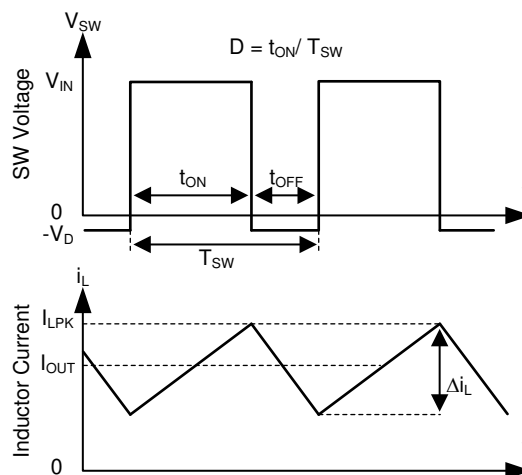

Figure 10-2. SW Node and Inductor Current Waveforms in Continuous Conduction Mode (CCM)
The following operating description of the TPS2586x-Q1 refers to the *Functional Block Diagram*. The TPS2586x-Q1 integrates a monolithic, synchronous, rectified, step-down, switch-mode converter with internal power MOSFETs and USB current-limit switches with charging ports auto-detection. The TPS2586x-Q1 offers a compact and high efficiency solution with excellent load and line regulation over a wide input supply range. The TPS2586x-Q1 supplies a regulated output voltage by turning on the high-side (HS) and low-side (LS) NMOS switches with controlled duty cycle. During high-side switch ON time, the SW pin voltage swings up to approximately V_{IN} . The inductor current i_L increases with linear slope $(V_{IN} - V_{OUT}) / L$. When the HS switch is turned off by the control logic, the LS switch is turned on after an anti-shoot-through dead time. Inductor current discharges through the LS switch with a slope of $-V_{OUT} / L$. The control parameter of a buck converter is defined as Duty Cycle $D = t_{ON} / T_{SW}$, where t_{ON} is the high-side switch ON time and T_{SW} is the switching period, shown in *Figure 10-2*. The regulator control loop maintains a constant output voltage by adjusting the duty cycle D . In an ideal buck converter, where losses are ignored, D is proportional to the output voltage and inversely proportional to the input voltage: $D = V_{OUT} / V_{IN}$.